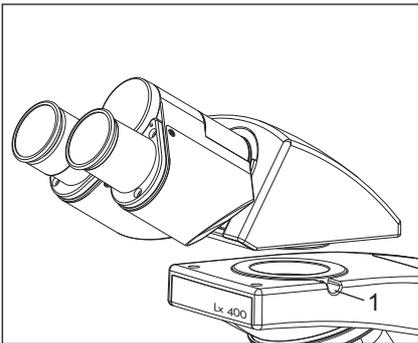

Fig. 13
1. Using allen wrench 3mm (provided), loosen the Head Locking Screw (1) and remove the dust cover cap provided in dovetail cavity as well as on observation head dovetail.
3. Tighten the Head Locking Screw (1) after positioning the Observation Head as desired. See figure 13.